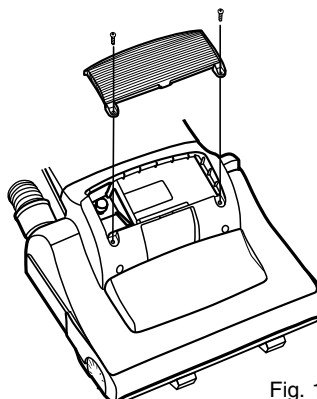

Fig. 1
1. Loosen the 2 screws from the lens cover and remove it. (Fig.1)